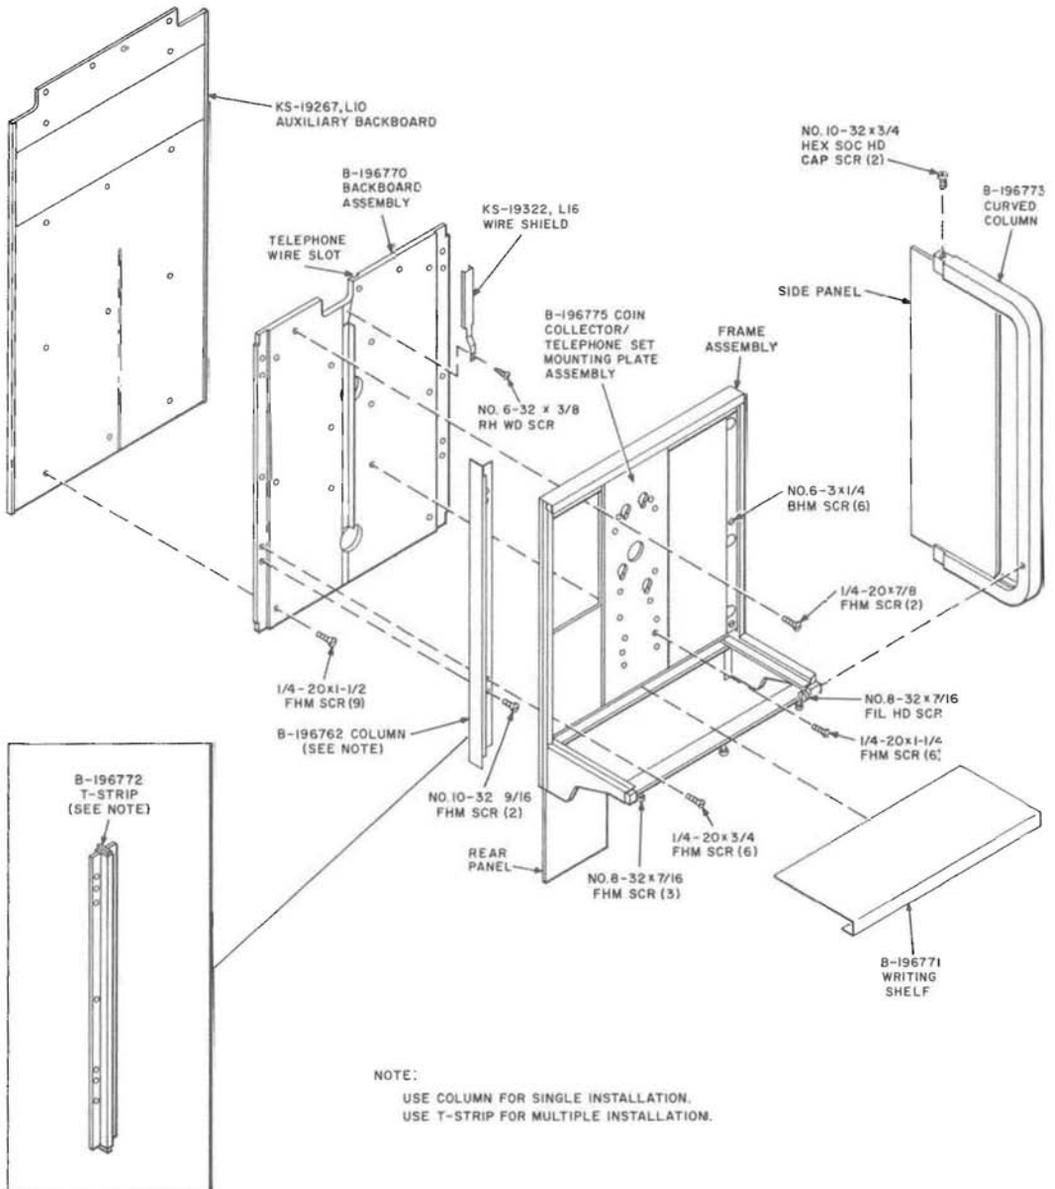

Fig. 7—Assembly of KS-19267 Shelf
3.03 Secure B-196770 backboard assembly to List 10 auxiliary backboard, if applicable, using nine 1/4-20 by 1-1/2 FHM screws (Fig. 7).
3.04 Install KS-19322 sign if applicable and cover exposed electric power cord between sign and shelf with KS-19322, List 16 wire shield (Fig. 7).
Where multiple units are installed, a B-196772 T-strip will be used to join two shelves together. This T-strip will replace the side column. T-strips are furnished as part of KS-19267, List 2 and List 4 shelf assemblies (Fig. 7).
(b) Remove the following per Fig. 7:
- 4.06 Refer to Fig. 7, 8, and 9 and Tables A and B for replacement parts.